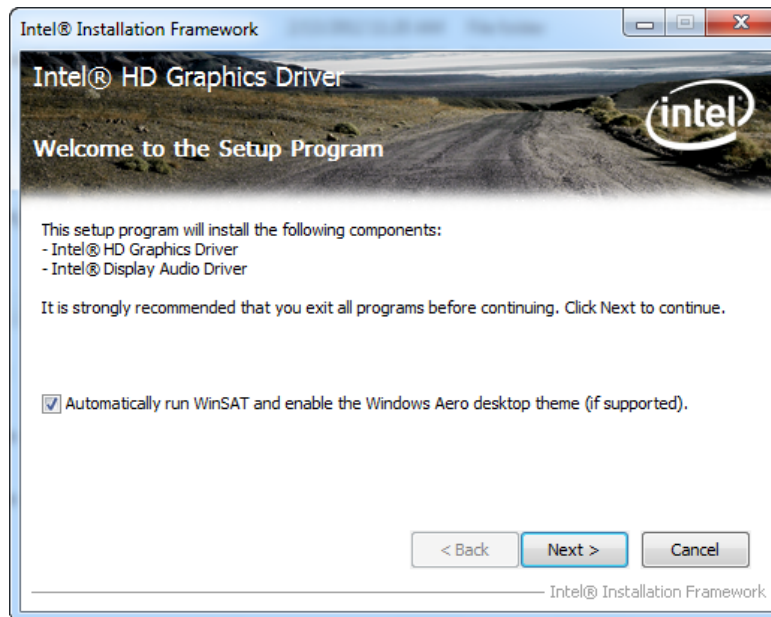

Figure 5-10: Graphics Driver Welcome Screen
Step 8: The **Welcome Screen** in Figure 5-10 appears.